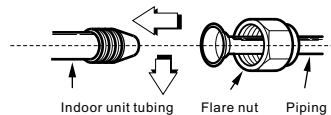

Fig 27
- Sufficiently tighten the flare nut with fingers, and then tighten it with a spanner and torque wrench as shown in Fig.27 & 28.